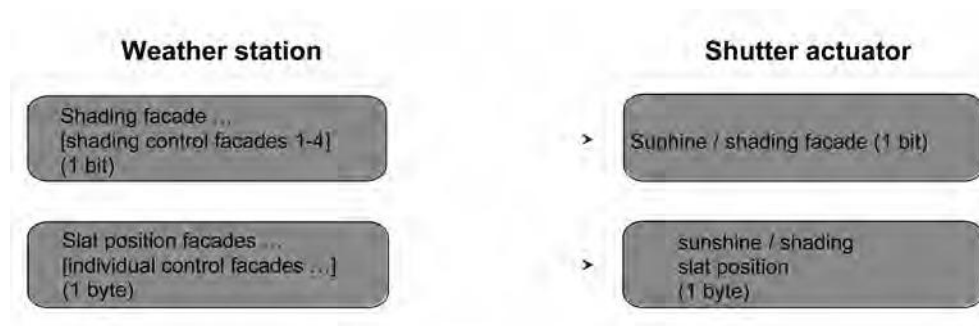

Figure 28: Programming of the communication objects for application example III
- fixed blind position setting.(figure 28)